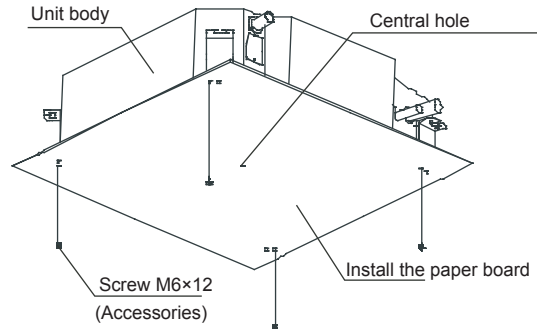

Fig. 4-5
- 2 After installing the body, fasten the installation paper board onto the air conditioner with bolts (M6X12) to determine in advance the sizes and positions of the hole opening on the ceiling. (Refer to Fig. 4-5)